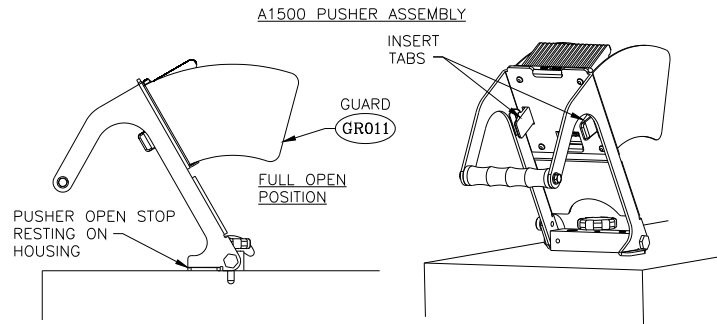

FIGURE 3
- A) Open Pusher Assembly to full open position using handle. The Pusher Open Stop should be resting on cover as seen in figure 3 below.